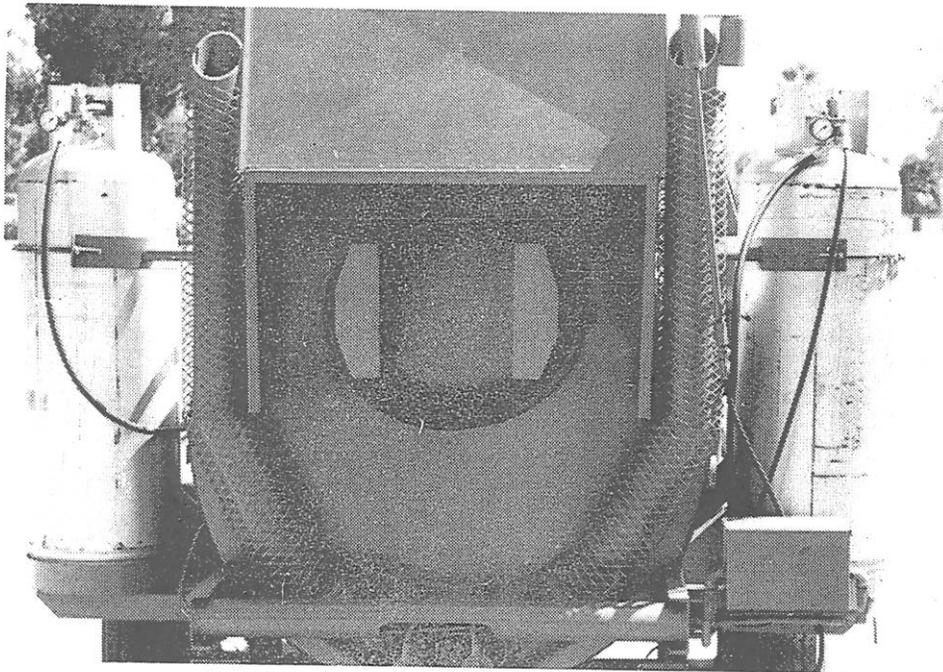

Figure 5 - Heating Chamber
8. Applicator hose can be kept warm and ready for use by storing it in heating chamber before use of machine. See Figure 5. Close heating chamber door after hose has been coiled in heating chamber.
5. Close recirculation valve ④ completely and open cleanout valve ①.
7. When solvent flows freely through hand applicator, close cleanout valve ① and disengage pump.
8. Open drain valve ⑤ and reverse pump until all fluid is purged from lines.
9. Stop pump and close drain valve ⑤.
11. Coil hose in heating chamber for next use (Figure 5). Hang hand applicator on hooks. Cleanout of all lines and pump is complete.